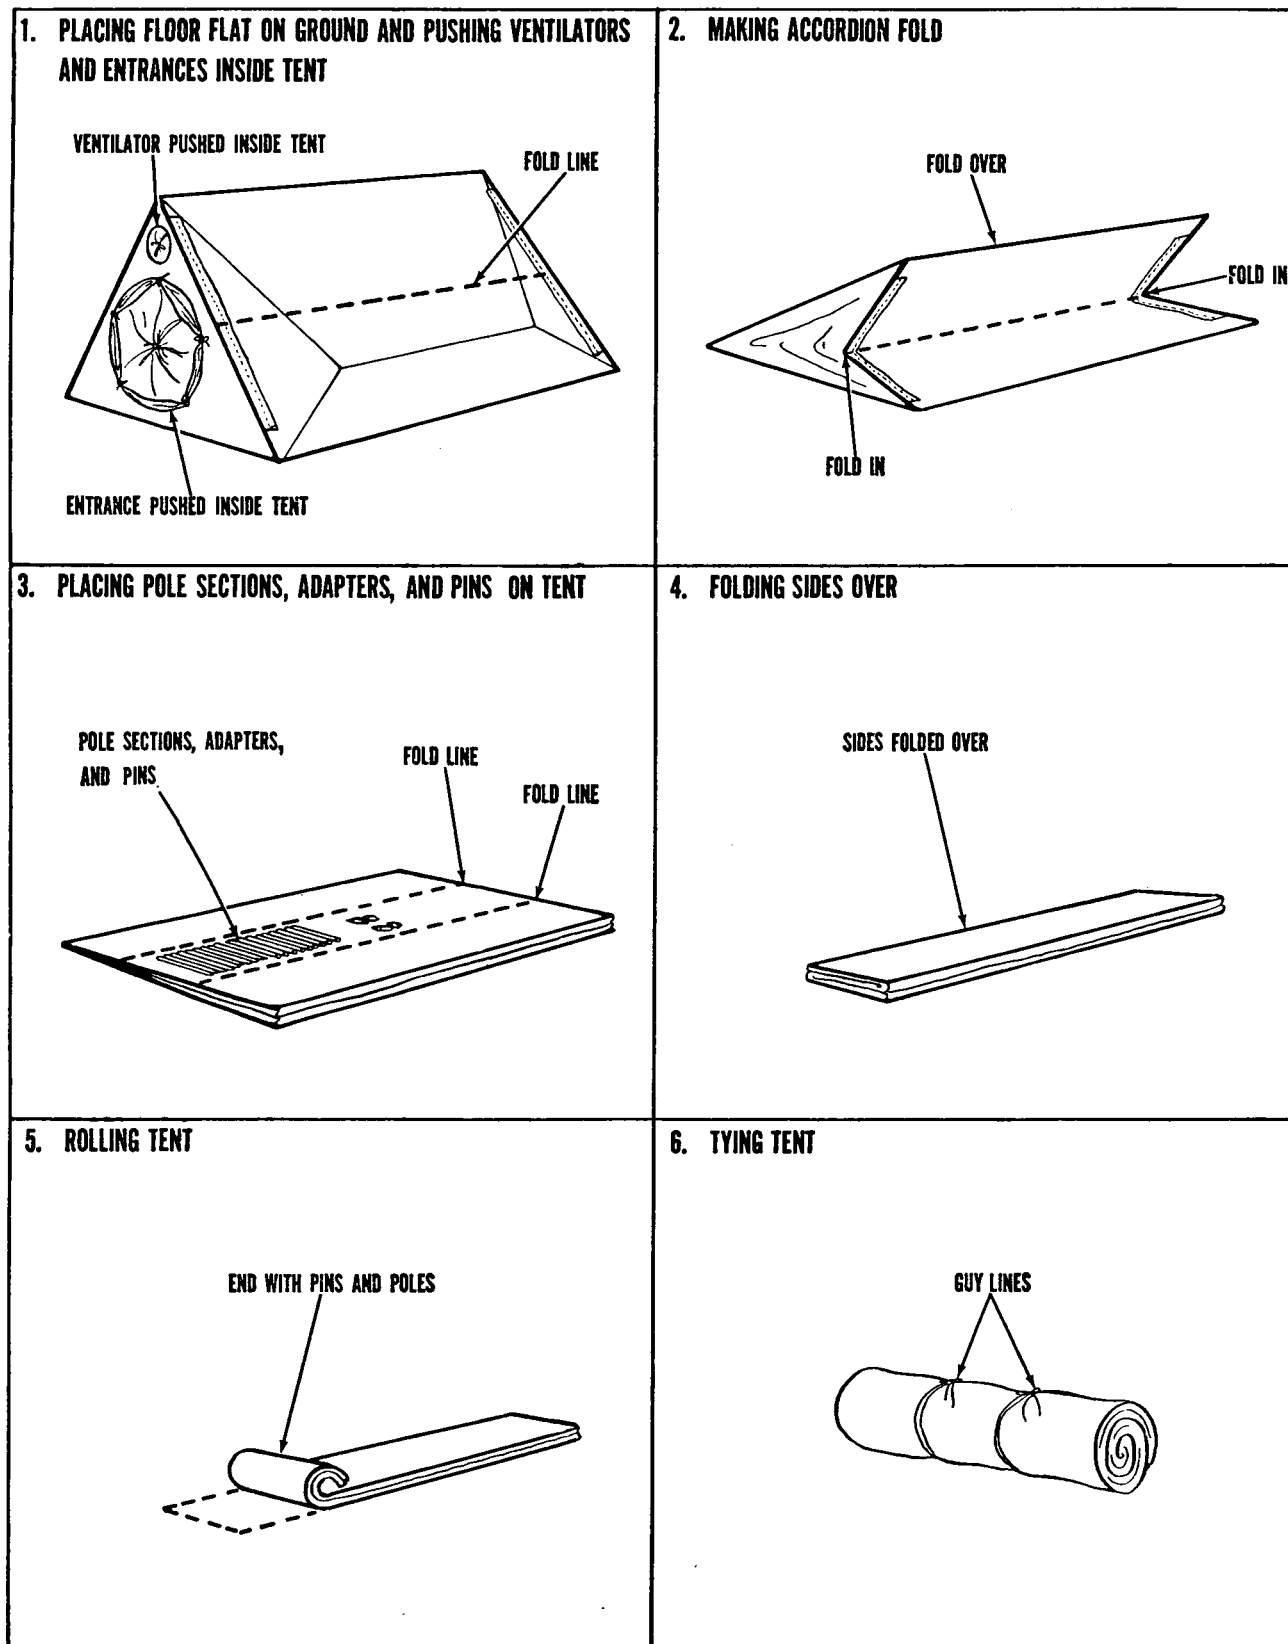

Figure 47. Steps in folding and rolling tent, mountain, 2-man.
(1) Untie ventilator and tunnel entrance tie tapes from guy lines.
(2) Remove guy and eave lines from pins.
(3) Remove pins from ground.
(4) Untie guy lines from webbing loops at front and rear peaks of tent.
(5) Unfasten adapters from poles and remove poles from tent, and then disassemble poles.
e. *Folding and Rolling* (fig 47).
(1) Place tent so that bottom is flat on ground. Push ventilators and tunnel entrances inside tent (1).
(2) With one man at each end of the tent, make an accordion fold by folding one side of tent inward at center and folding the other side over so that it covers bottom of tent (2).
(3) Place pole sections, adapters, and pins at center of one end of folded tent (3). Eave lines should remain attached.
(4) Fold sides of folded tent over toward center (4).
(5) Starting at the end with pins and poles, roll folded tent tightly toward the other end (5).
(6) Tie rolled tent with two guy lines (6). The tent can now be placed on the pack or stored.